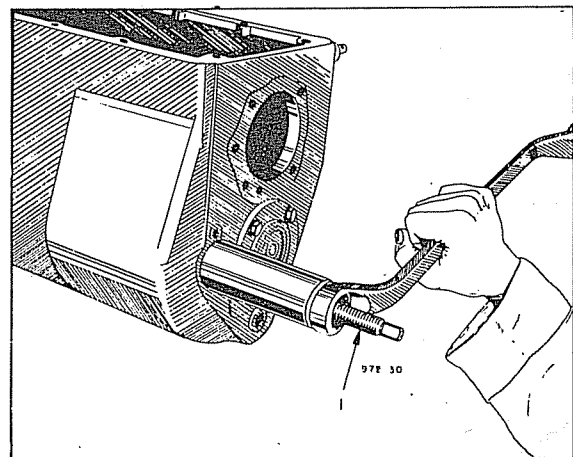

Fig. 19—Removing Reverse Idler Shaft (Tool C-603)
- (11) Remove the reverse idler lock and instal tool C-603. Remove the reverse idler shaft. (Figure 19).
- (12) Drive out the reverse idler shaft through the rear of the case and remove the reverse idler gear and bushing.